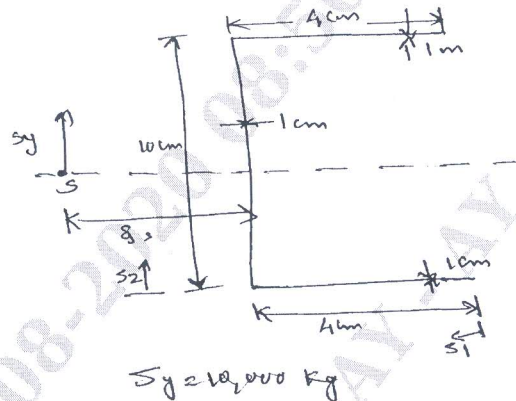

Fig.Q3(b)
b. Find the position of shear centre and shear flow between the stringers under the given load. [Refer Fig.Q3(b)]